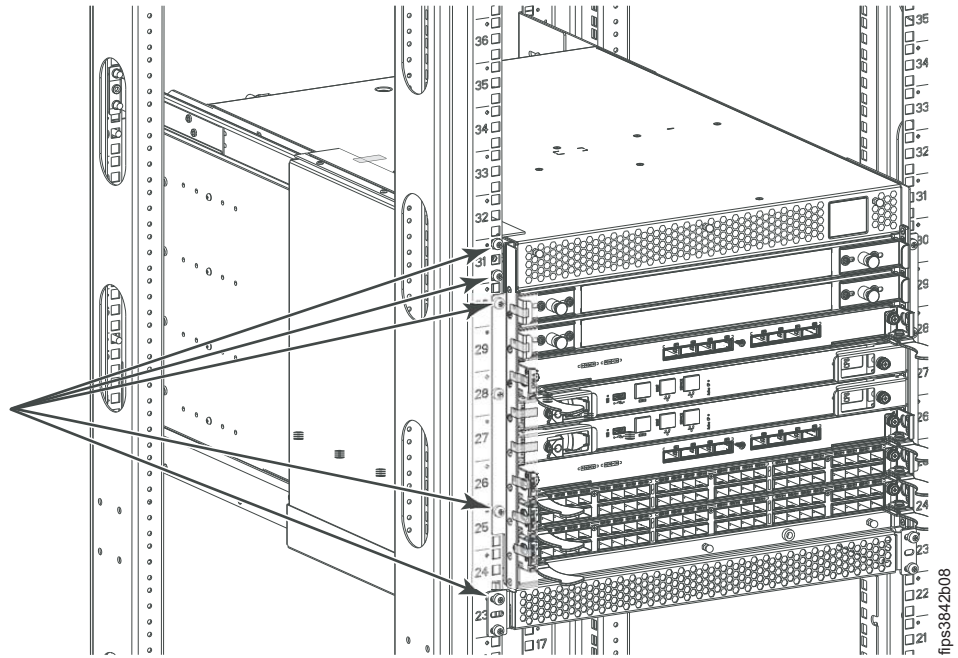
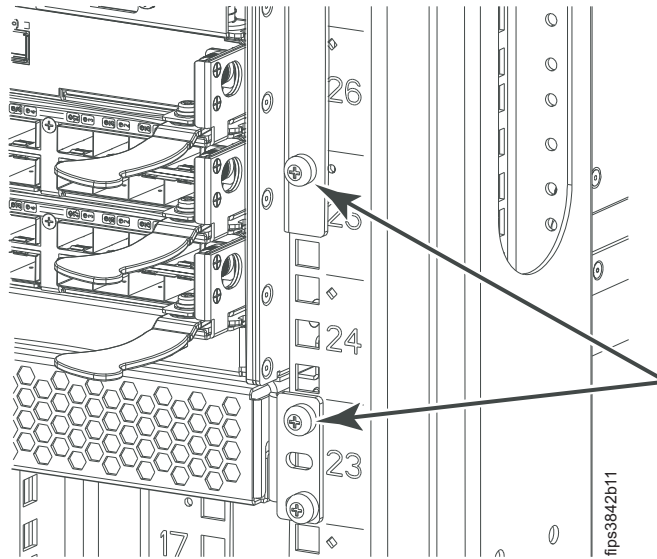

Figure 40. Five 2499-416 rackmount screws used for left side FIPS brackets (left port view)
Figure 43. Lower right 2499-416 rackmount screws to remove for FIPS bracket installation (detailed port side view)
2. Remove the three rackmount screws needed to secure the upper left FIPS bracket, as indicated by the top three arrows in Figure 40.
4. Remove the two rackmount screws needed to secure the lower left FIPS bracket, as identified by the two lower arrows in Figure 40 on page 41. (You can also refer to Figure 43 on page 44 for a more detailed mirror image of the similar lower right rackmount screws.)
8. Remove the two rackmount screws needed to secure the lower right FIPS bracket, as shown in Figure 43 on page 44.